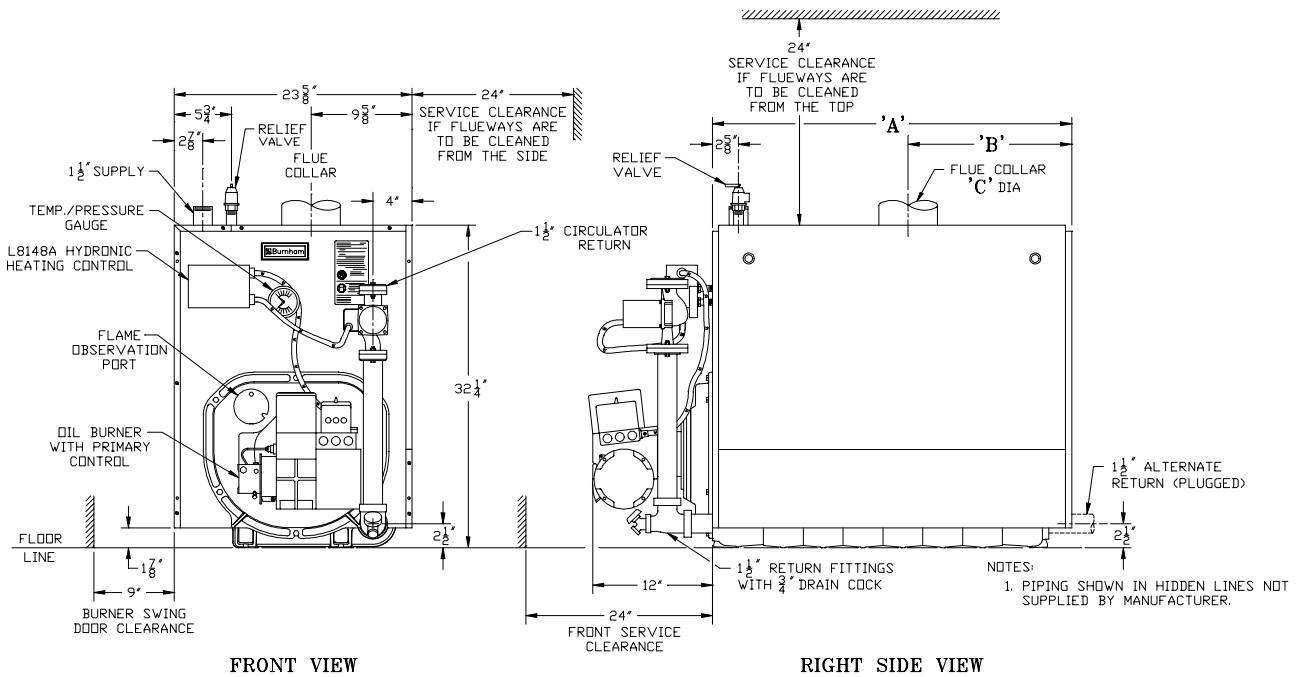

Figure 1A: V72 thru V79 Water Boiler Without Tankless Heater (WB)
TABLE 1: DIMENSIONAL DATA (SEE FIGURES 1A THRU 1E)
2. ANY CLAIMS for damage or shortage in shipment must be filed immediately against the carrier by the consignee. No claims for variances from, or shortage in orders, will be allowed by the manufacturer unless presented within sixty (60) days after receipt of goods.
- B. LOCATE BOILER** in front of final position before removing crate. See Figures 1A thru 1E.